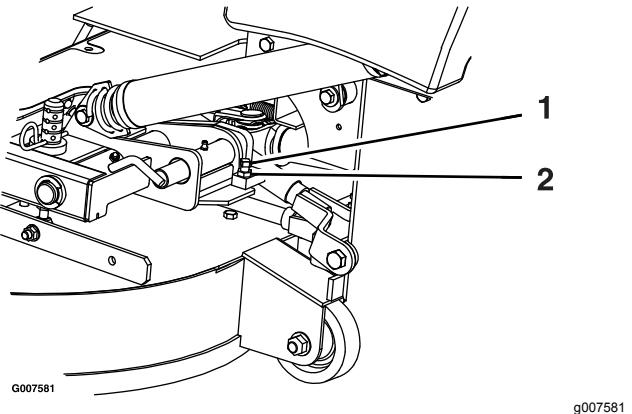

**Figure 57**
3. Loosen the 6 door hinge nuts (Figure 57).
4. Open the door and place a 3/8 inch (9.5 mm) rubber strip or 3/8 inch (9.5 mm) diameter hose between the hopper and the hopper door (Figure 57).